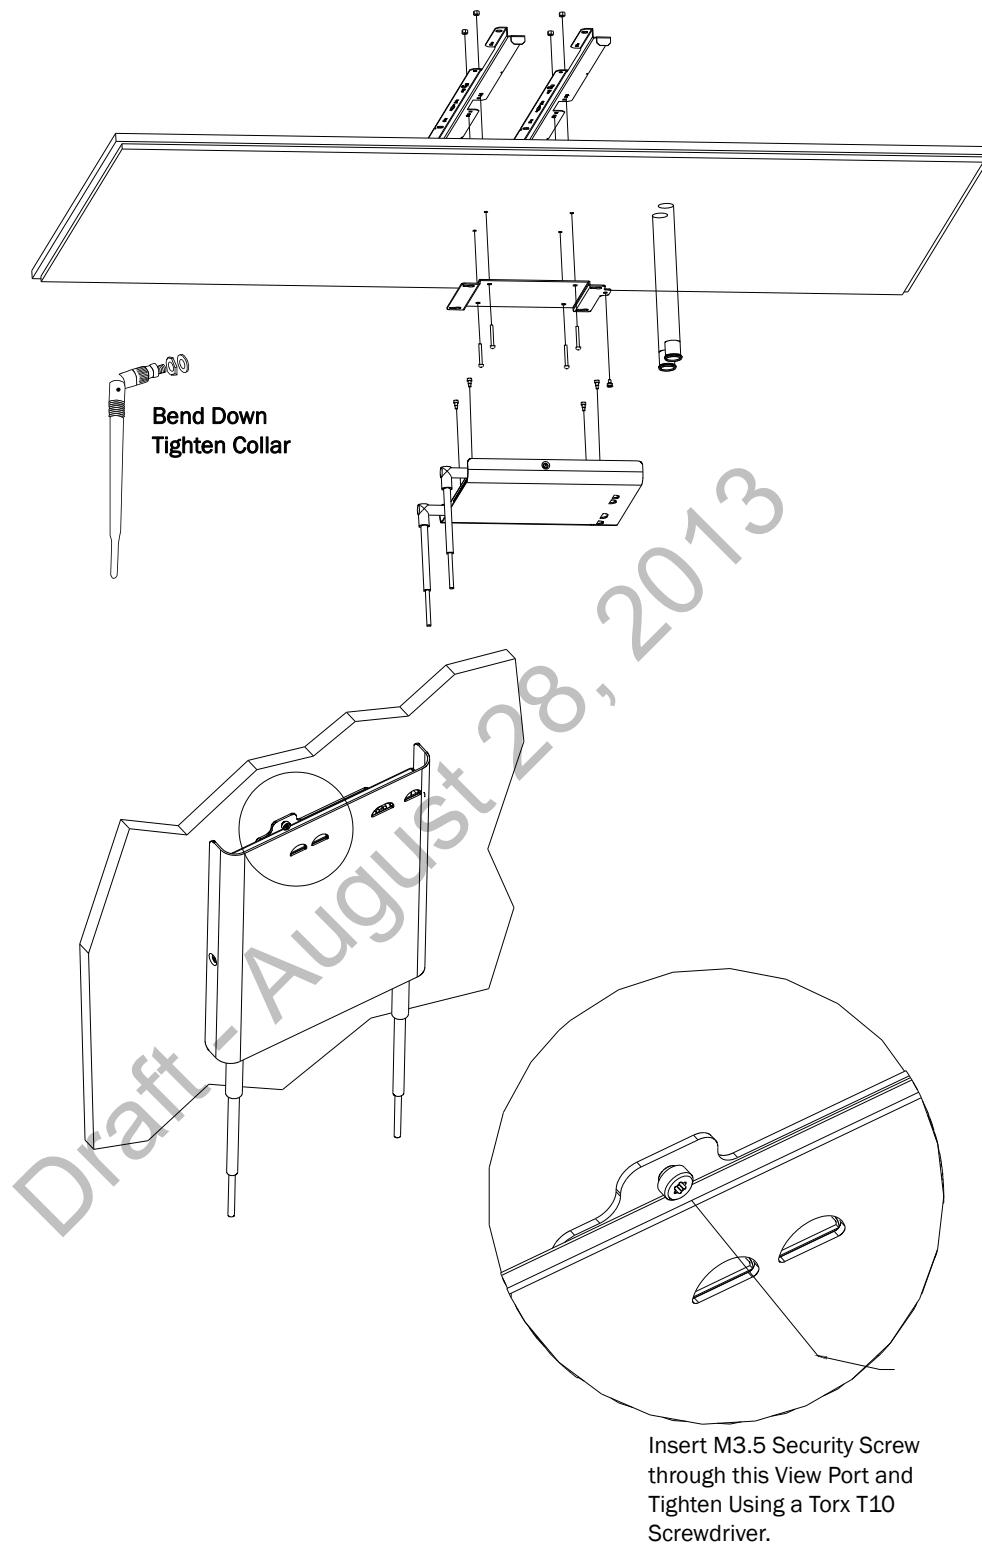

Figure 2-13: Mounting the Core AP Below a Ceiling Tile (Quick Release)
8. Insert the four (4) M3 .5 x 0.6 x 30mm screws into the AP wall plate, through the tile, and into the mating holes in the mounting rails on top of the tile. Hand tighten the four locking hex nuts onto the screws, and then torque-tighten each nut to 10-inch lbs (#1 Pozidrive).
9. Using a 5/64-inch (2 mm) Allen (i.e., hexagonal) wrench, secure the four supplied M3 X 0.5 hex-head shoulder screws to the back of the Core AP as shown in Figure 2-13. Torque-tighten each shoulder screw to 8-inch lbs.
11. Using a Torx T10 screw driver, secure the Core AP to the wall plate by screwing the supplied M3 0.5 X 0.6 T-10 Torx Head security screw into the PEM nut in the wall plate as shown in Figure 2-13. Torque-tighten the screw to 10-inch lbs. Note that this safety screw is used to prevent the Core AP from sliding out of the wall plate.